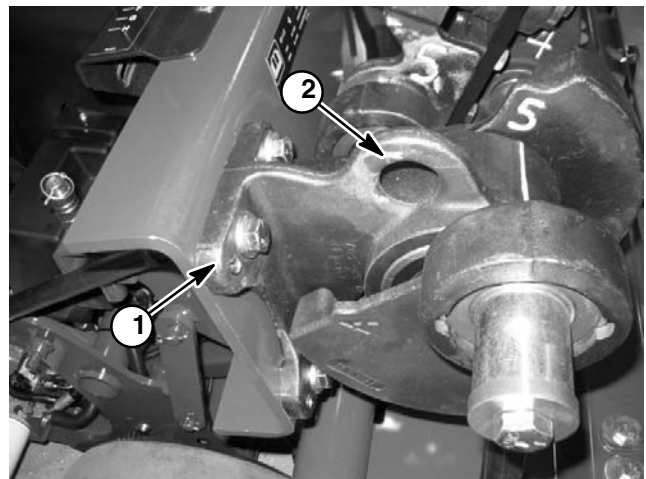

Figure 25
12. Using suitable lift or hoist, support coring head using lifting eyelets on coring crankshaft as lift points (Fig. 25). Once coring head is well supported, remove service latch from coring head.
14. Remove flange nuts (item 15) and carriage screws (item 13) that secure end of pivot shafts to machine.
15. Carefully slide pivot shafts from H-frame. Locate and retrieve thrust washers (item 12) from between H-frame and machine frame.